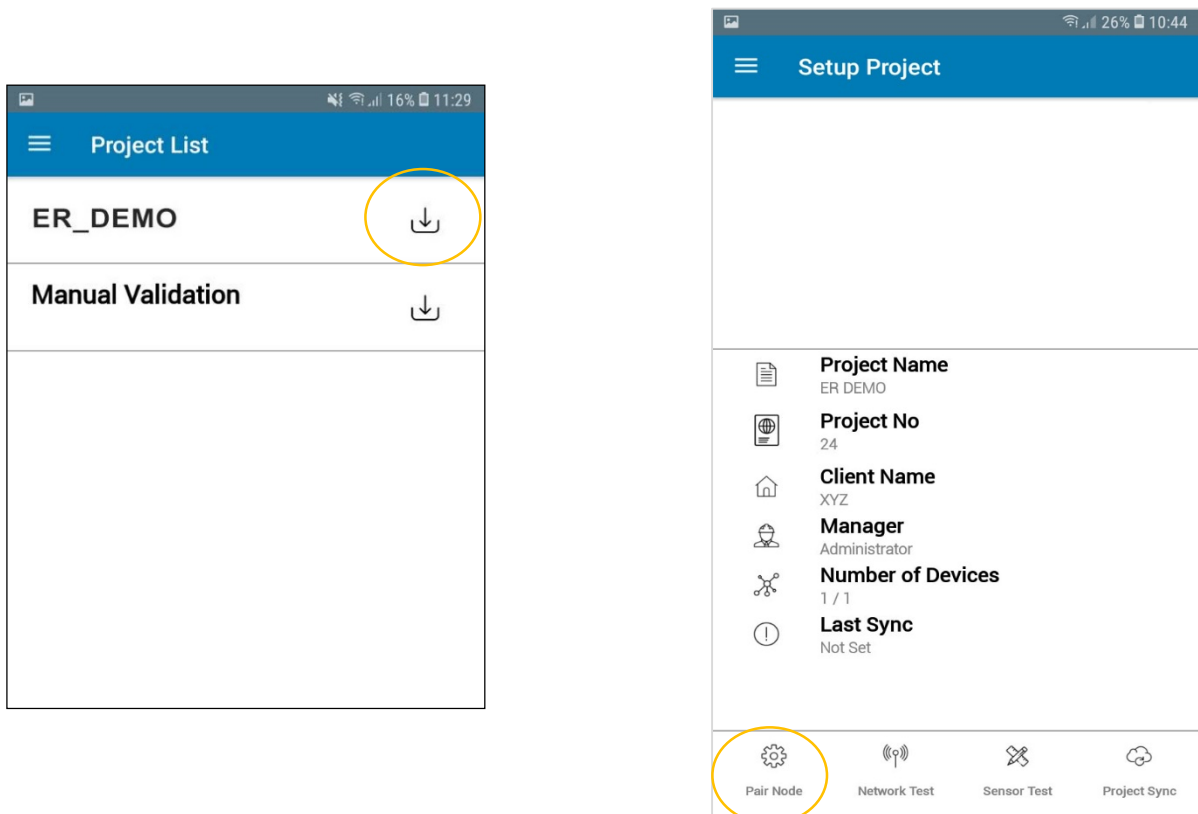
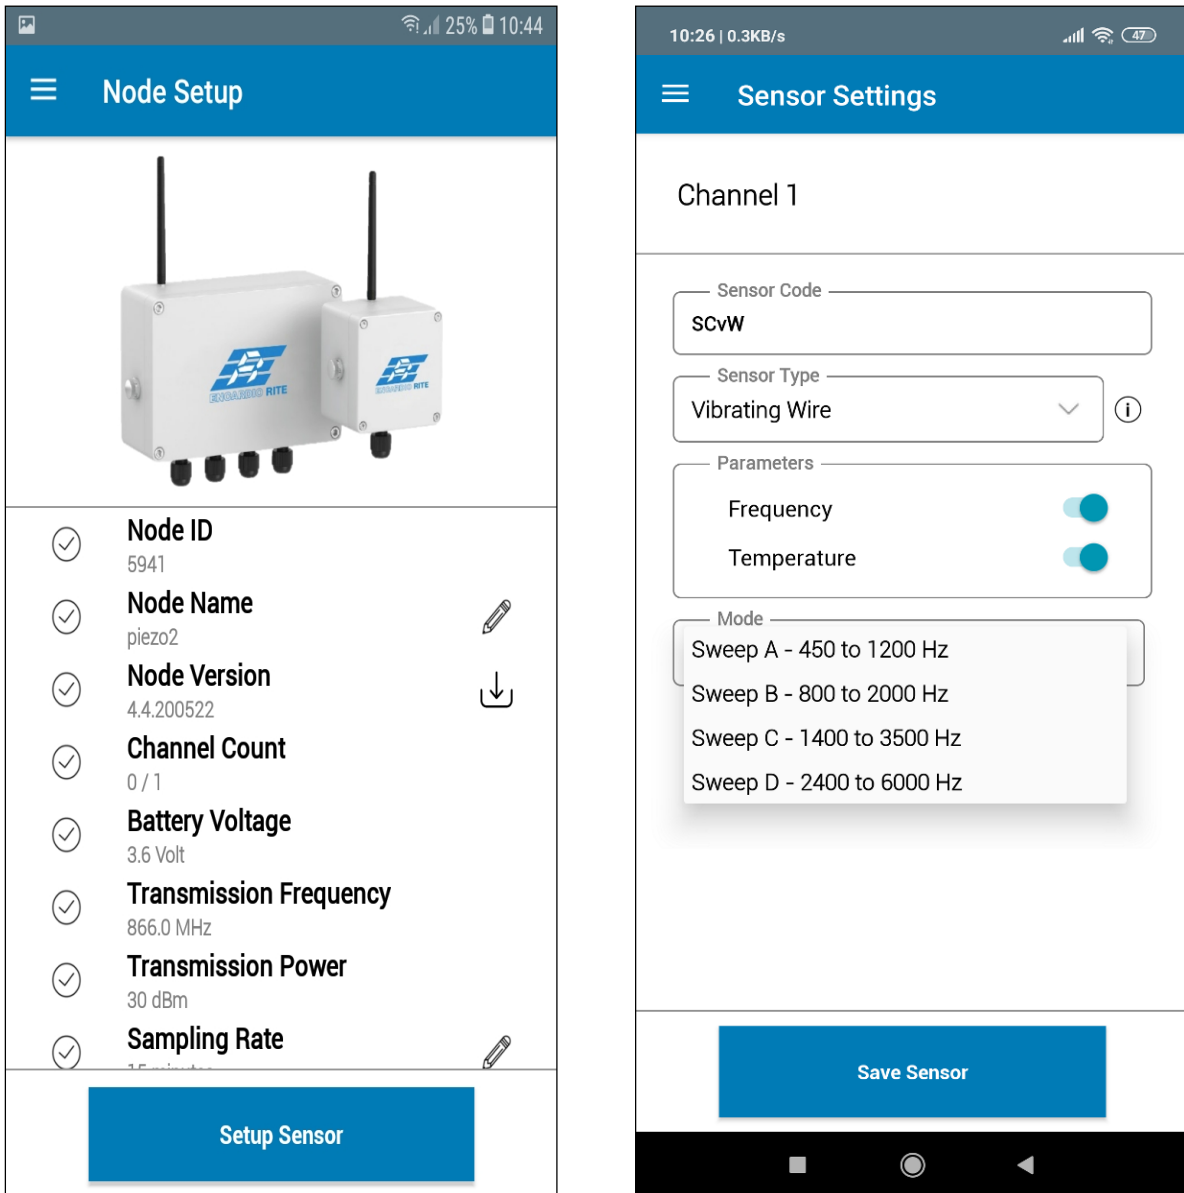

Figure 3-43
Figure 3-44
- 6. Click on "Pair Node" on the menu (at the bottom of the screen (right side) in figure 3-43), the app will show connected node information. Click on the 'Setup Sensor' as shown in left side screenshot in figure 3-44.
- 7. Sensor details will appear under Sensor setting screen as shown in right side screen in figure 3-44. Click on Save Settings. The Node will now read the configured sensor.